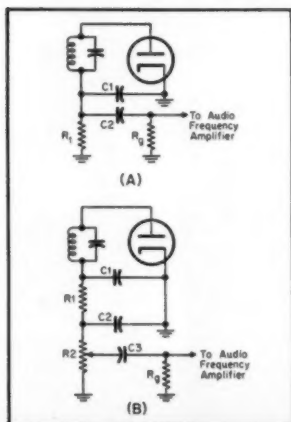

Fig. 3. Two methods of coupling a typical diode detector to the following audio amplifier stage.
Now if the audio output of the detector is coupled to an audio-frequency amplifier stage, the detector may be as shown at (A) in Fig. 3. When the detector output is coupled to a following amplifier stage, the audio-frequency impedance of the detector load is less than the d.c. impedance, the operating point of the detector will not follow the d.c. load line to the origin (a.f. load line coincides with d.c. load line only at quiescent point  $Q$ ), and distortion will occur if the modulation percentage is high. If  $C_s$  has negligible reactance at the modulating frequency, the a.c. impedance of the load is  $\frac{R_1 R_g}{R_1 + R_g}$ . If
The circuit of (B) in Fig. 3 is perhaps more typical of the usual method of coupling the detector output to an audio-amplifier stage. In this case the diode load is split into two sections, the lower resistor serving as a volume control. For the same total value of diode load (neglecting the shunting effect of  $R_g$  and assuming  $R_1 = R_g$ ), the audio output is only half that of the circuit of (A) in Fig. 3. With the volume control set near maximum, for low values of  $R_g$  the distortion at high modulation levels, although below that of (A), will be appreciable. However, in most receivers the audio gain is much higher than required for local stations, the volume control is turned to a low setting, and the resulting distortion is small. Furthermore, in most receivers  $R_g$  is high enough to have negligible shunting effect at any volume control setting.